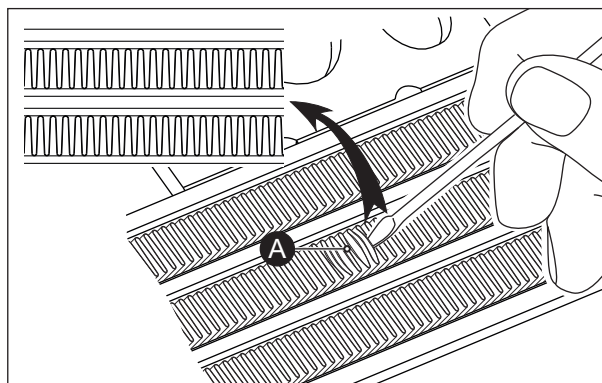

Fig. 2.62
- Inspect the oil cooler fins (A) for any deformation. If it so, straighten them with a thin, flat head screw driver. (Fig. 2.62)